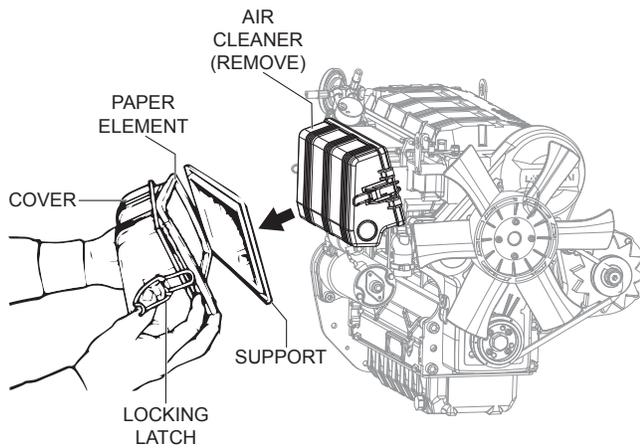

Figure 21. Air Cleaner Removal
1. Release the locking latch and remove the air filter paper element as shown in Figure 21.